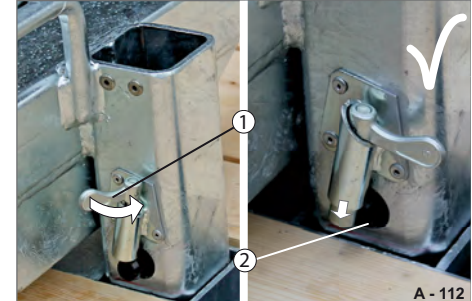

Fig. 166 Securing the securing rails
- ▶ Turn the pin (Fig. 166/1) so that the bolt is secured.